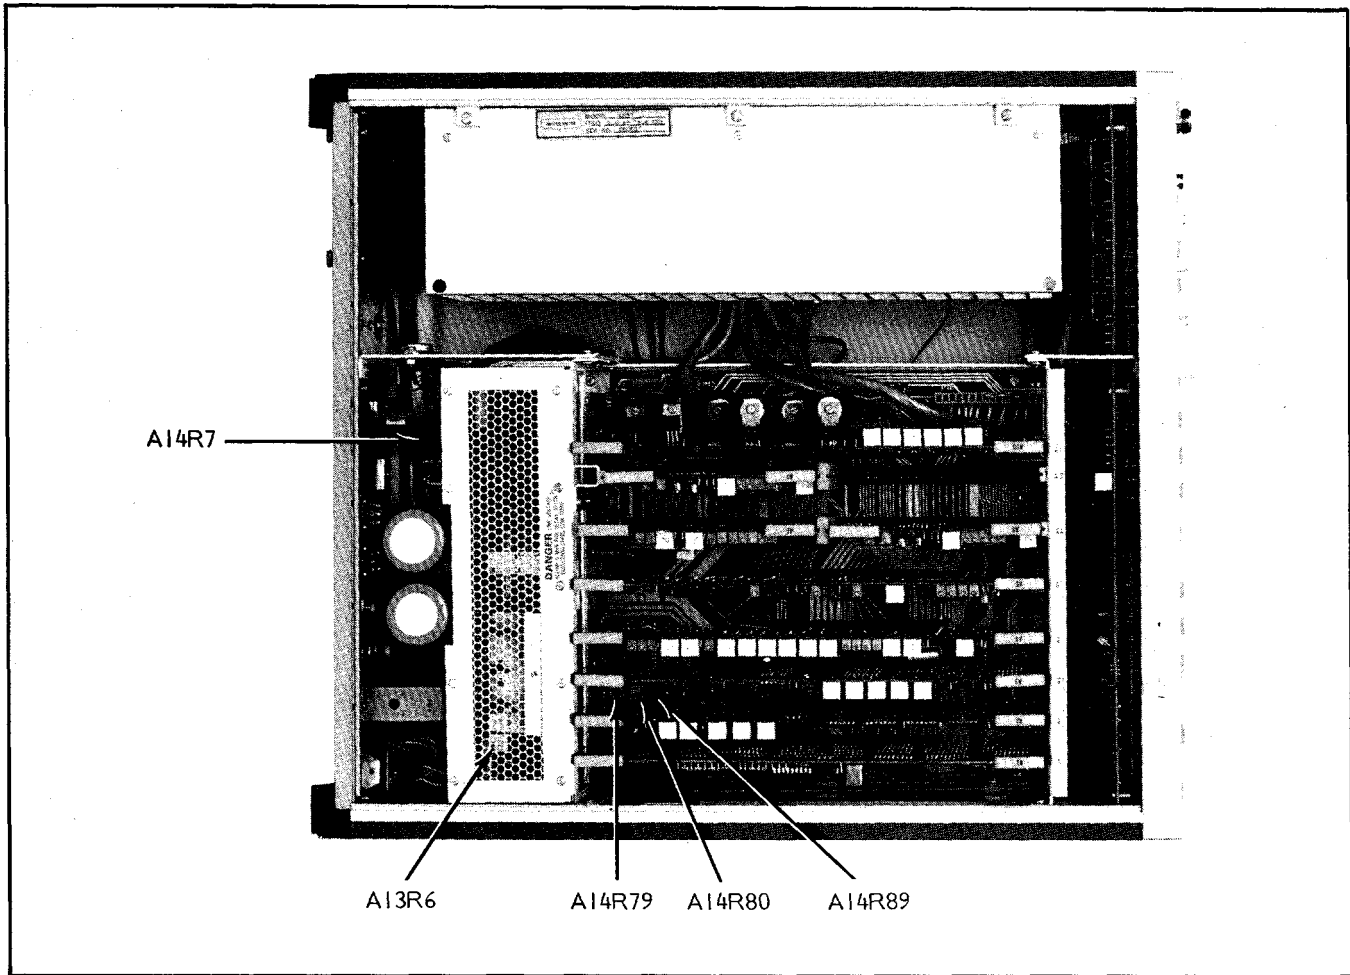

Figure 5-4. A13/A14 Power Supply Adjustments
6. Press POWER to ON, and adjust A13R6 (Figure 5-4) for approximately 5 volts.
10. Press POWER to ON and adjust A13R6 (Figure 5-4) for +5V \pm 1.0 mV.
2. Adjust A14R7 (Figure 5-4) for -38V \pm 100 mV.